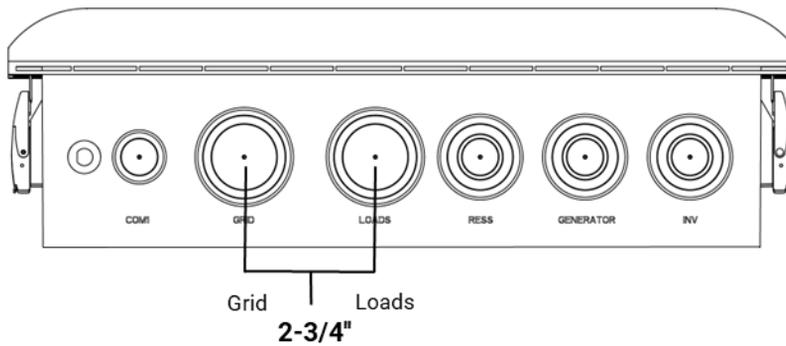

Figure 7. GRID and LOAD Knockouts
- Select a drill with an appropriate hole saw, and drill the knockout for Grid on the bottom of the SmartGateway to install the cable gland. (Ref. to Figure 7.)
- Select a drill with an appropriate hole saw and drill the knockout for the load on the bottom of the Smart Gateway to install the cable gland. (Ref. to Figure 7.)
- Select a drill with an appropriate hole saw, and drill the knockout for Grid on the bottom of the Smart Gateway to install the cable gland. (Ref. to Figure 7.).
- Select a drill with an appropriate hole saw, and drill the knockout for the load on the bottom of the Smart Gateway to install the cable gland. (Ref. to Figure 7.)